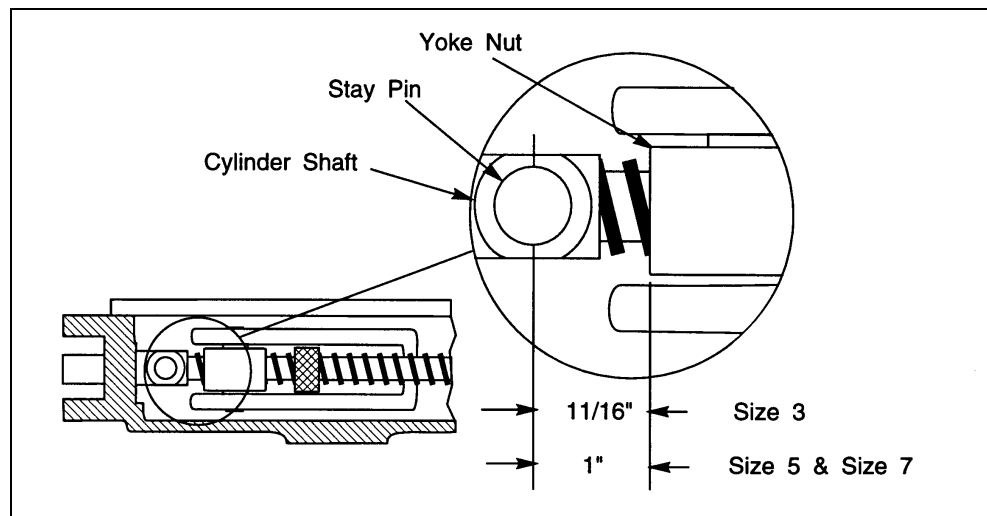

Figure 1- Distance from Stay Pin Hole to Yoke Nut
1. Screw the cylinder into the yoke nut and stop nut. Figure 1 shows the correct distance from the stay pinhole to the yoke nut.